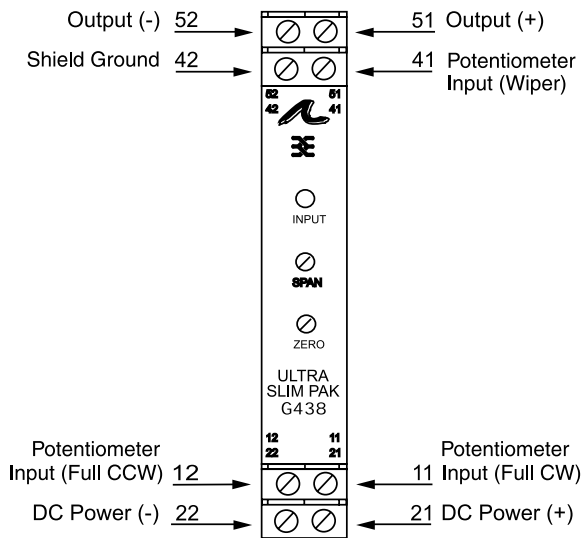

Figure 1: Wiring Diagram for G438
2. Connect the input and output as shown in Figure 1. Connect the output to the device (or a load approximately equivalent to the device) and apply power.